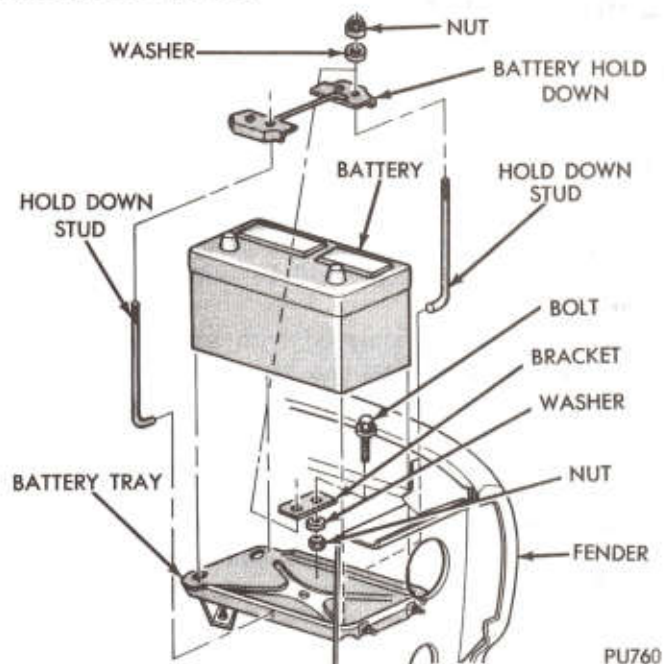

Fig. 3—Battery Hold-Down
(3) Remove battery hold down (Fig. 3) and remove battery from vehicle.